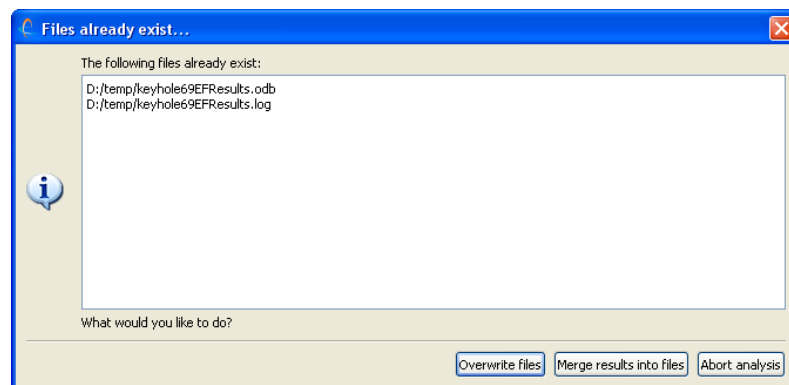

Figure 207.3-3
- if the output ODB file already exists then the user is prompted (see Figure 207.3-3) to choose to either overwrite the output ODB file with a copy of the source database before appending the fatigue results, or append the fatigue results to the existing output ODB.